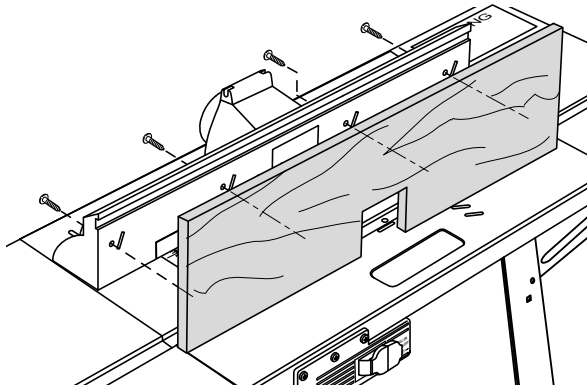

Figure 37
2. Attach board to fence with 4 woodscrews (not provided). See Figure 37.